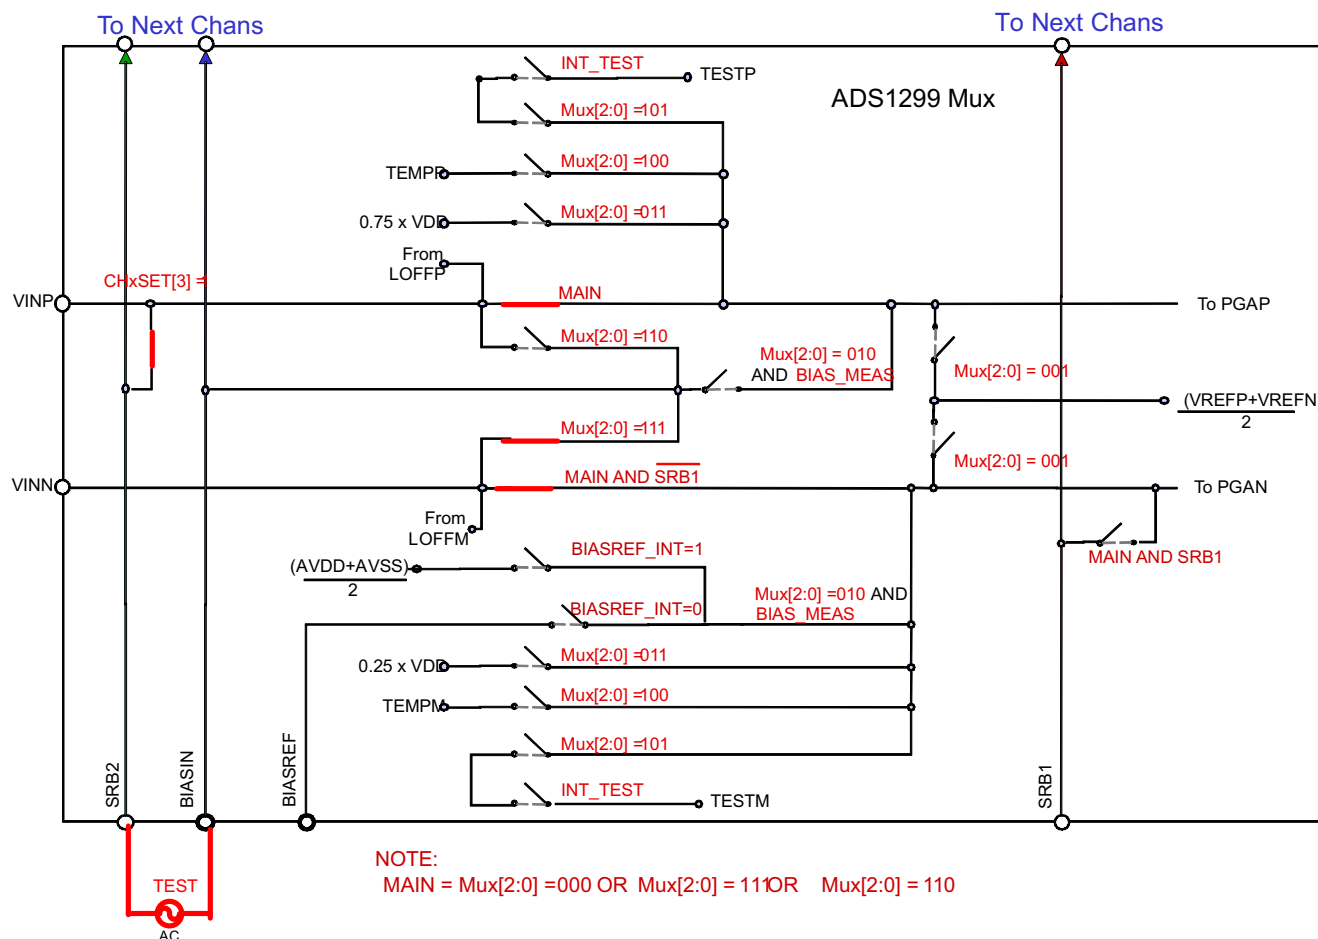

Figure 38. Settings for Normal Electrode
Step 1. Set the inputs to Normal Electrode, refer Figure 38